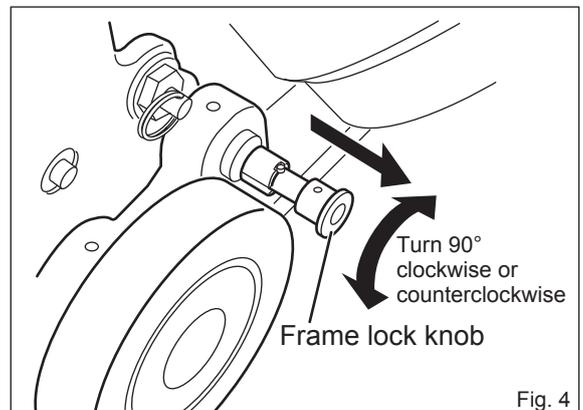

Fig. 4
2. Unlocking the Frame (Figs. 4 & 5)
(1) Pull the frame lock knob on the bottom left hand side of the motor and, at the same time, turn it 90° either clockwise or counterclockwise. (Fig. 4)
(2) When the frame lock knob is protruding, the frame is unlocked. When transporting the unit, use the same process in reverse to lock the frame prior to transport.